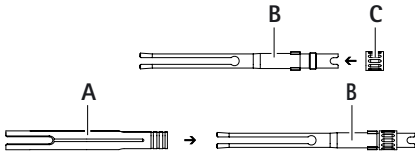

Fig. 10
- Push on outer sleeve **A** from the front end over collet **B**, see Fig. 10. Ensure that the slots are aligned with the slot nuts. The grooved end of the clamping sleeve should point in the direction of fixing screw **C** for improved usability.